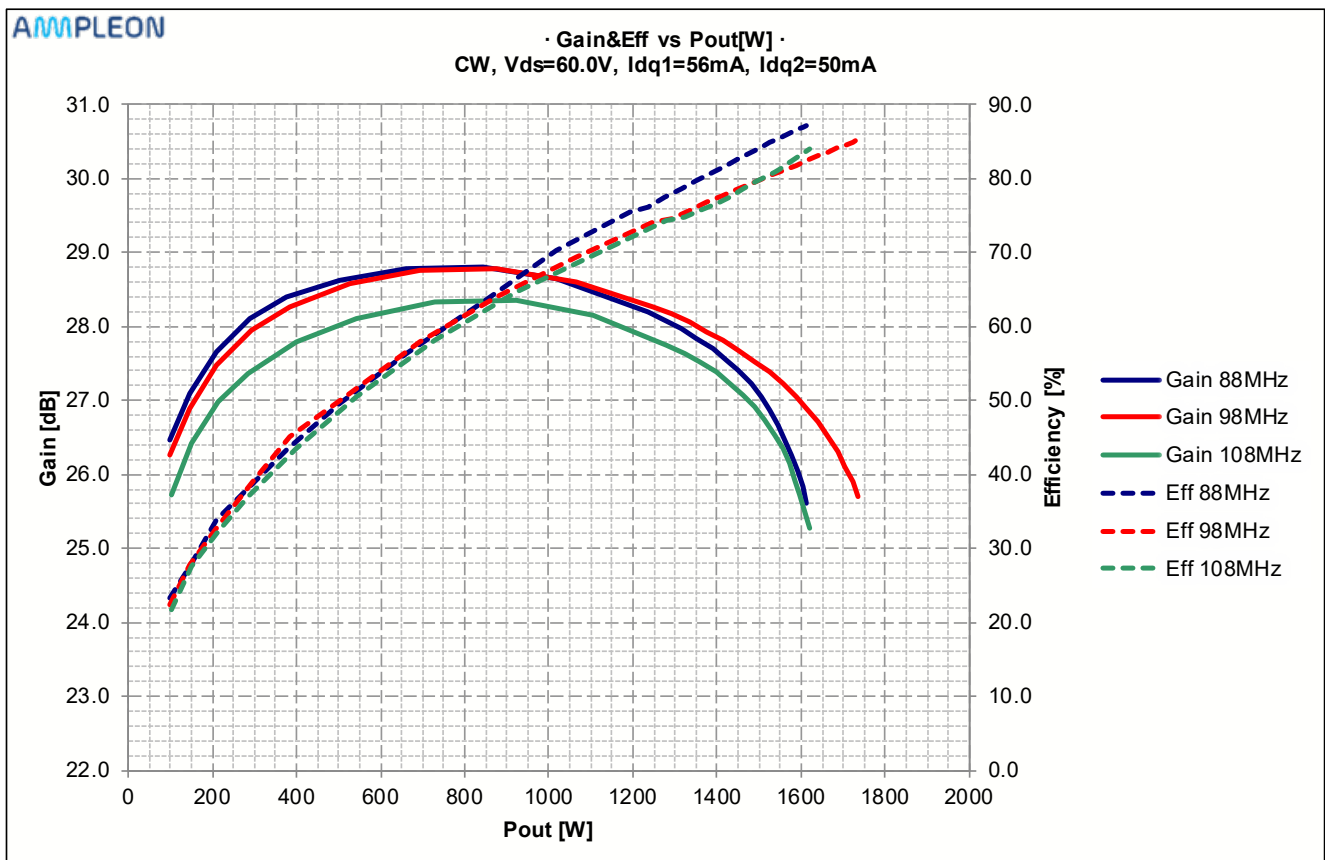

Figure 1 CW (Vds=60V) Gain and Efficiency vs Pout [W]
- Figure 1 CW (Vds=60V)Gain and Efficiency vs Pout [W] 4